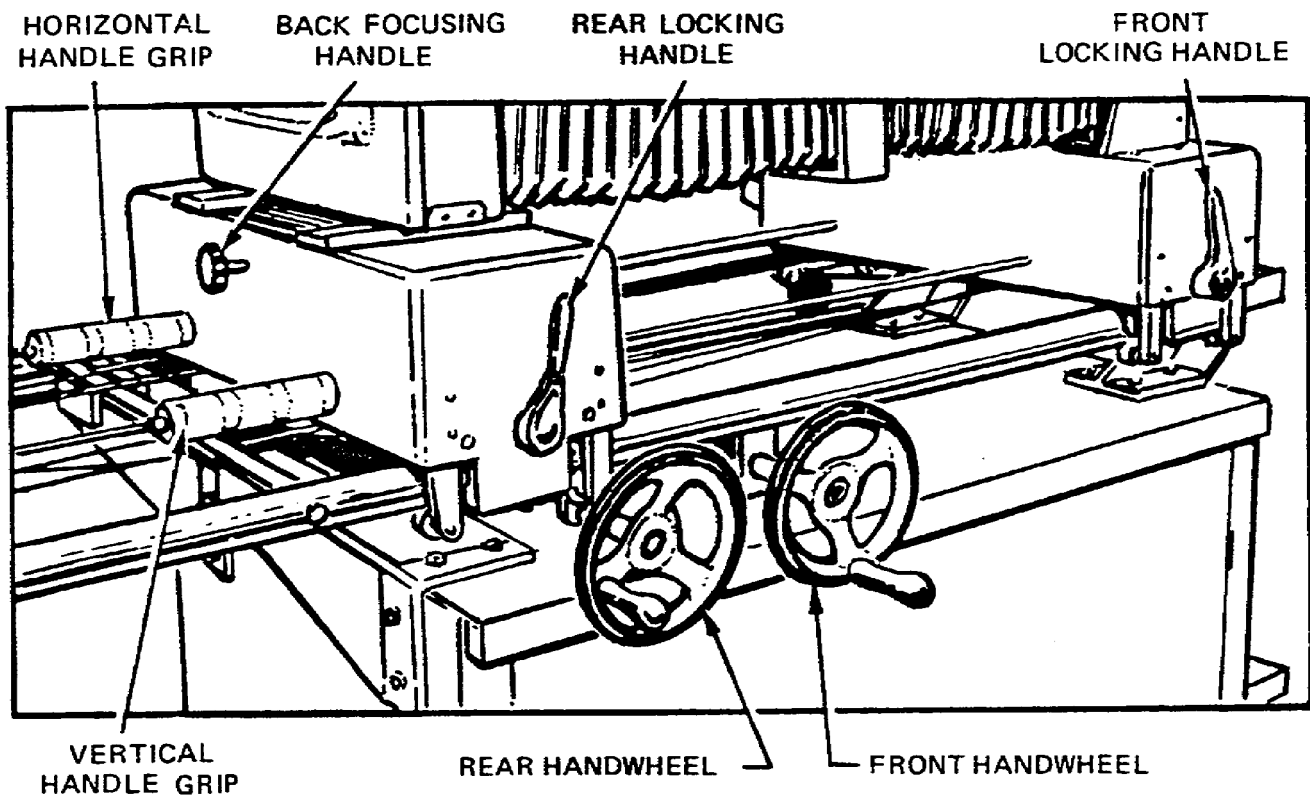

Figure 1-50. Camera Controls.
a. Camera controls (fig 1-50).